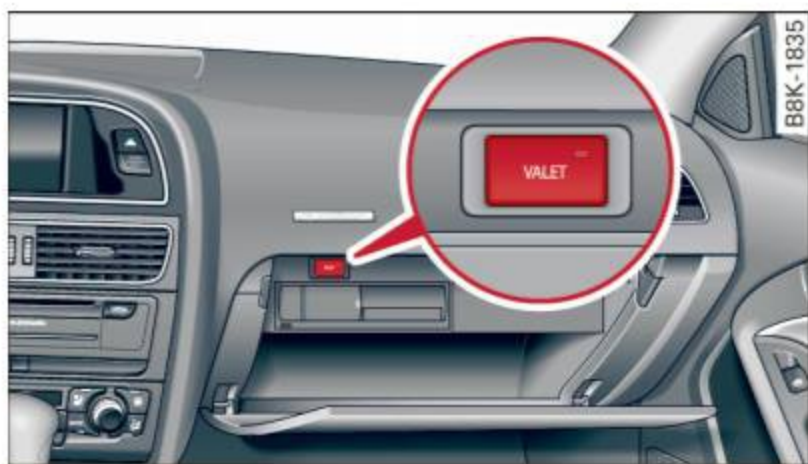

Fig. 33 Glove compartment: valet parking button
- ▶ Activate ⇒ *fig. 33* the “valet parking” feature by pressing the **VALET** button. The indicator light in the switch illuminates.